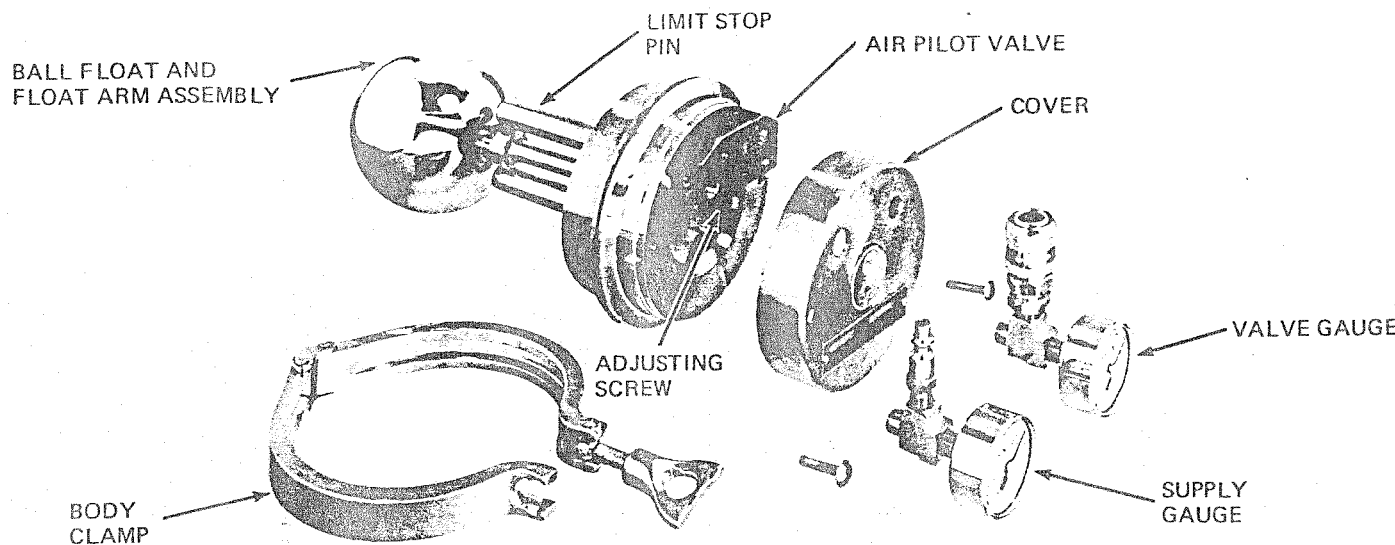

Figure 5. Model 30-101 and 30-102 Level Control - Disassembled
5. If "Valve" gauge shows a reading, turn adjusting screw (Figure 5 or 6) counter-clockwise until reading is zero or until air stops escaping from the unit. If "Valve" gauge reads zero, turn adjusting screw clockwise until there is a reading - then turn the adjusting screw counter-clockwise until reading is zero or until air stops escaping from the unit.